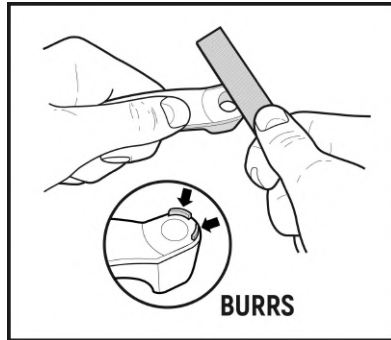

Fig. 25
3.12 Inspect the bolt head seating surfaces on the right-hand bearing cap. If burrs are present, dress the surfaces with a file to ensure proper contact between the bracket and the cap. (Fig. 25)